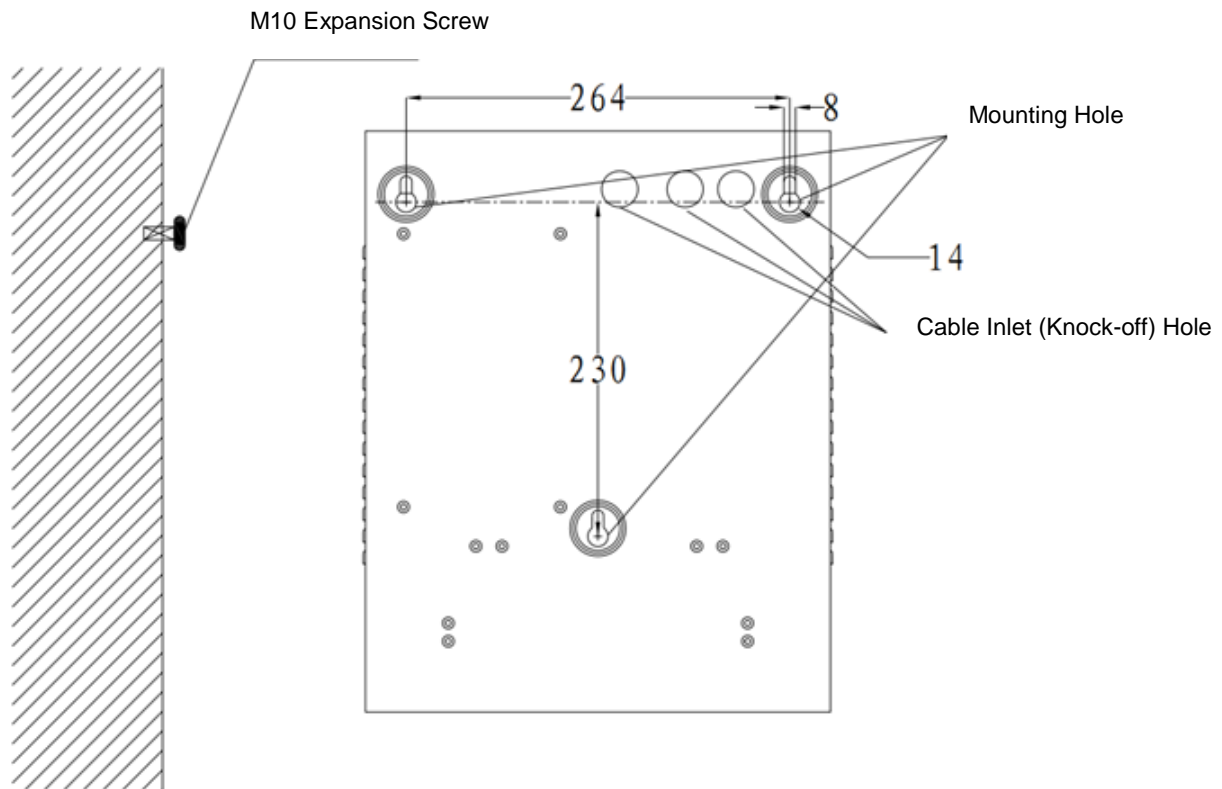

Fig 6 Installation Drawing
5. Installation drawing is shown in Fig 6.